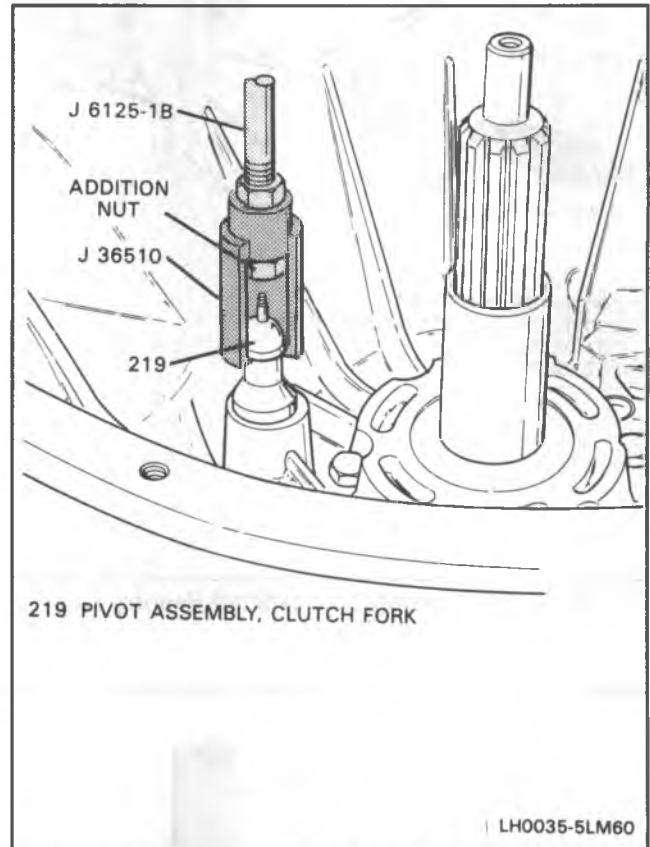
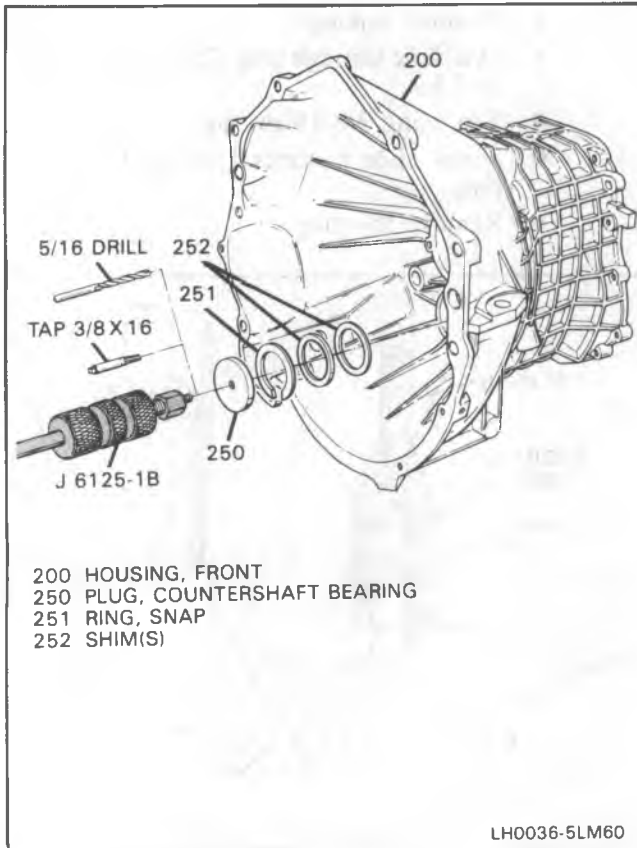

Figure 34 Removing Clutch Fork Pivot Assembly
Figure 35 Removing Countershaft Bearing Plug
3. Clutch fork pivot assembly (219), using J 36510 and J 6125-1B (Figure 34).
4. Shift shaft/rails plugs (221)
5. Countershaft bearing plug (250) (Figure 35).
- Drill hole through plug (250) with 5/16 in. drill bit.